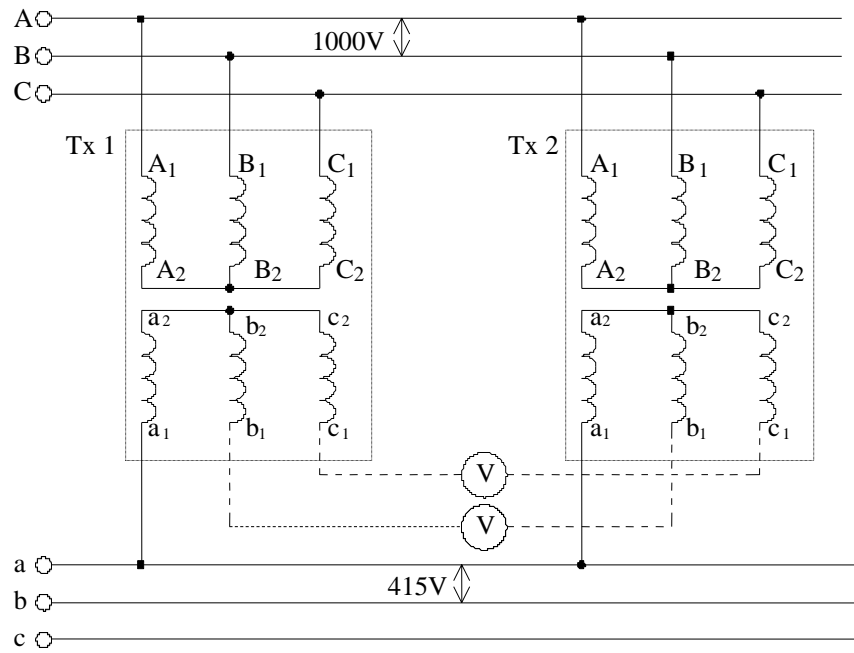

Figure 2
2. What would be the expected voltmeter readings in the circuit of figure 2, if the transformers were -